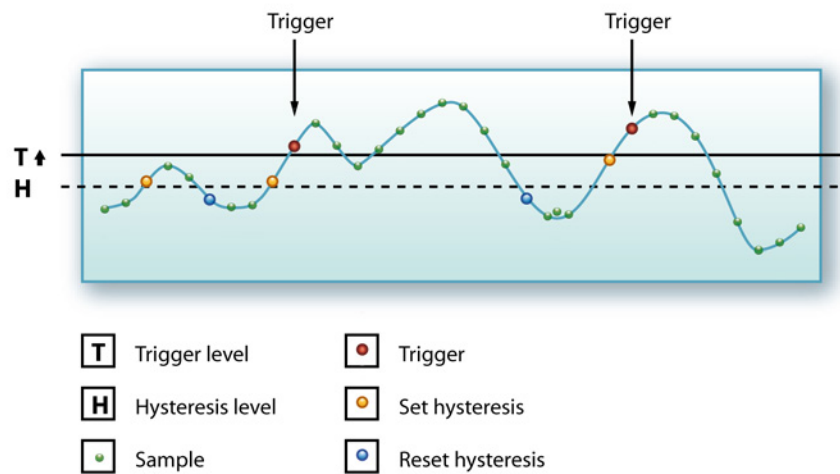

Figure 10.3: Trigger level hysteresis
Figure 10.3 shows the influence of the additional hysteresis. Fundamentally all is the same as described earlier. The only difference now is that a second level (H) is used to 'arm' the level trigger detector. Otherwise stated, the trigger level has been expanded to be a trigger zone that spans multiple levels.